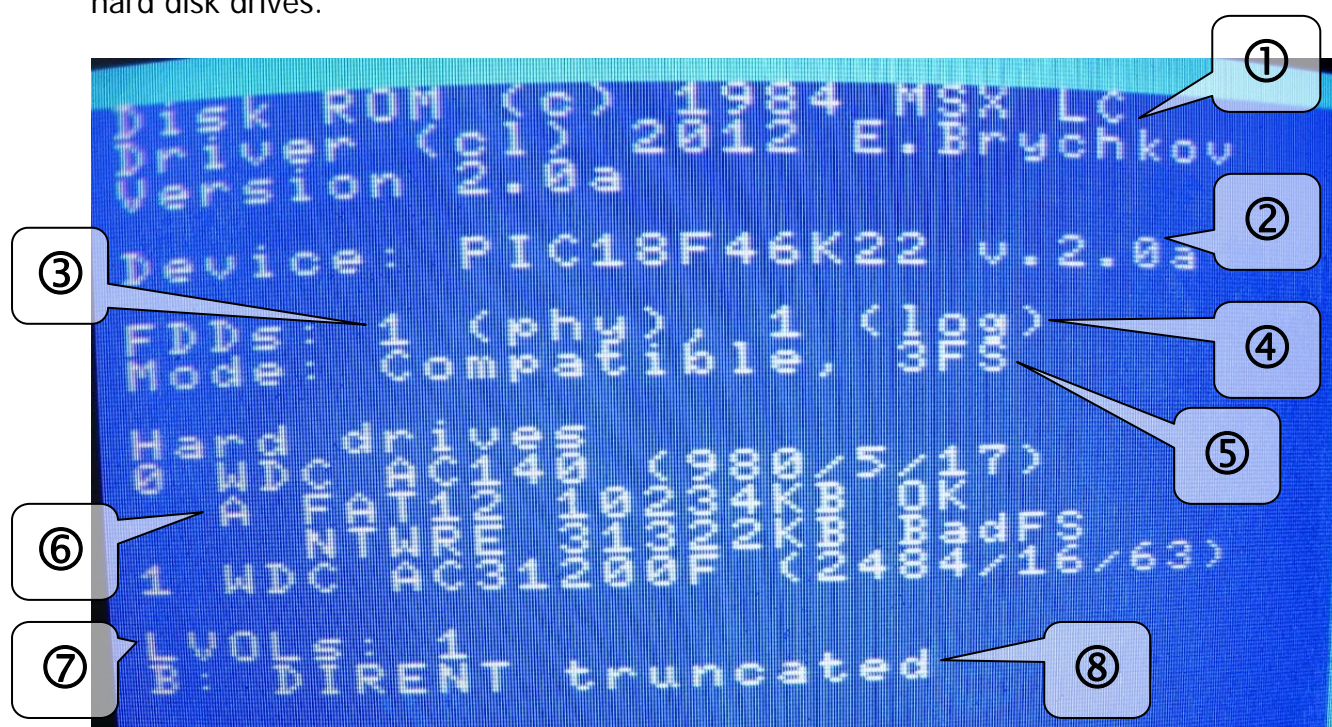

Figure 2.1. Storage subsystem initialization screen
Figure 2.1 shows messages on the initialization screen. Let's consider every part, as each provides you with important information:
- *DIRENT truncated*: number of directory entries exceeds allowed 254 (like in example on fig. 2.1): directory entries will be truncated to 254 in DPB, and volume will be configured in read-only mode. Data read from such a volume *can be valid*;